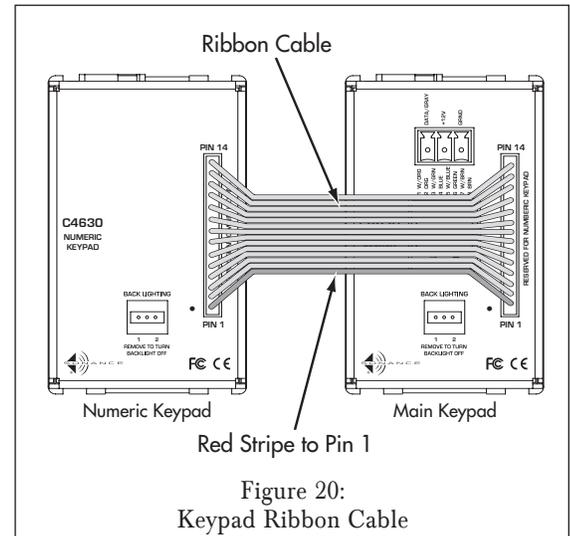

Figure 20:
- Connect the ribbon cable so that the wire with the red stripe connects to Pin 1 on both keypads (see *Figure 20*).